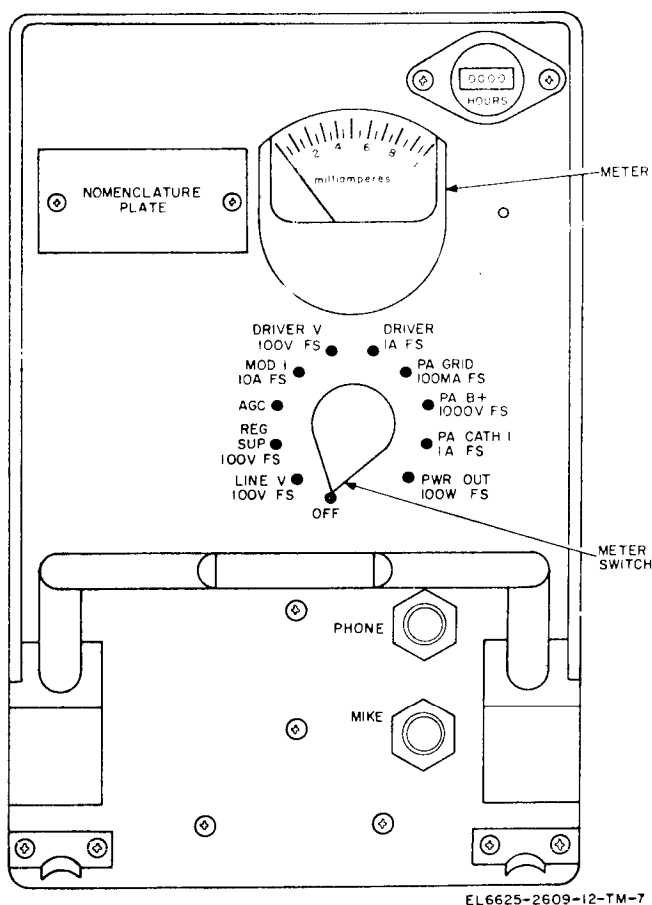
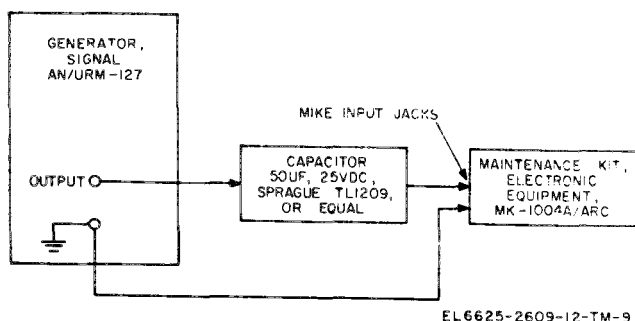

Figure 2-3. Radio Set AN/ARC-134, front Panel view.
Figure 2-5. Signal Generator AN/URM-127 connected to maintenance kit.
d. Set the meter switch (fig. 2-3) on, the AN/ARC-134 front panel to LINE V 100V FS; the AN/ARC-134 meter should indicate 27.5 volts dc (-20%, +10%).
(1) Leave the AN/URM-120 and Dummy Load DA-75U connected as described in e above.
(2) Set the AN/ARC-134 meter switch (fig. 2-3) to MOD I 10A FS.
(3) Key the AN/ARC-134 with the U-94A/U. Talk into the microphone and observe the AN/ARC-134 meter. The meter should fluctuate with modulation.
(4) Connect Signal Generator AN/URM-127 through a 50-micro farad blocking capacitor (fig. 2-5) to the test panel MIKE INPUT jacks (fig. 2-1).
(5) Set the AN/URM-127 to a frequency of 1000 Hz.